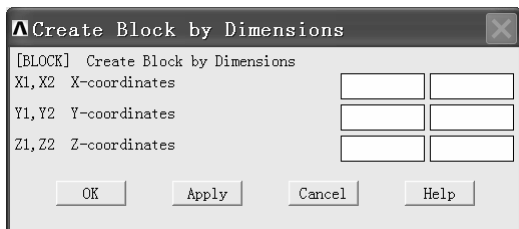

图 3-168 “Create Block by Dimensions” 窗口
(1) 依次选择 Main Menu>Modeling>Create>Volumes>Block>By Dimensions, 弹出 “Create Block by Dimensions” 窗口 (见图 3-168)。